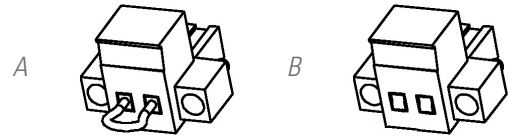

Fig. 11. Connector for external EPO.
- The device is dispatched from the factory with its EPO circuit set to closed (NC) by default. In other words, the UPS will cut the output power supply, emergency power off, when the circuit is opened:
- Either by removing the female connector from the socket where it is inserted. This connector has a cable connected as a jumper that closes the circuit (see Fig. 11-A).
- Or by pressing the button external to the device belonging to the user installed between the terminals of the connector (see Fig. 11-B). The connection on the button must be in the normally closed contact (NC), so it will open the circuit when activated.